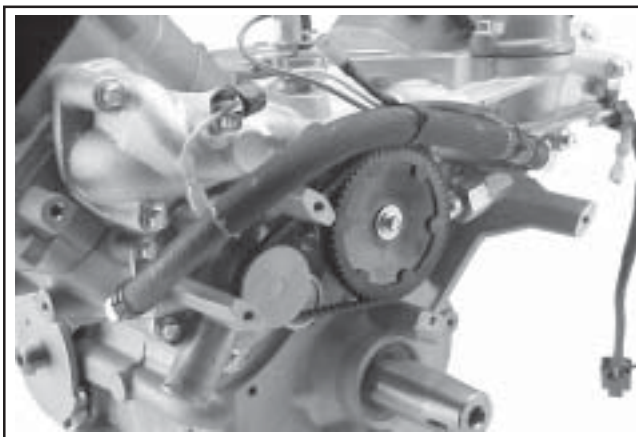

**Figure 11-61. Torquing Thermostat Housing Screws.**
8. Position the thermostat housing on the gasket and intake manifold. The notch in manifold, gasket and thermostat housing must all be aligned. Install and torque the two hex flange screws to 9.9 N·m (88 in. lb.). See Figure 11-61.